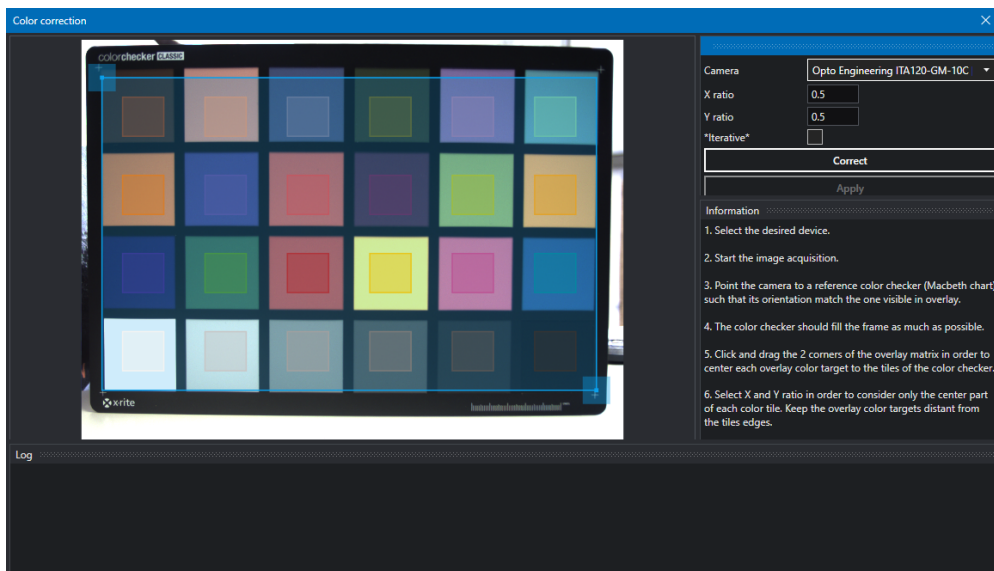

Figure 31: For optimal results, make sure to align the wizard color mask to the Macbeth color chart tiles.
5. The color checker should fill the frame as much as possible (Fig.31).